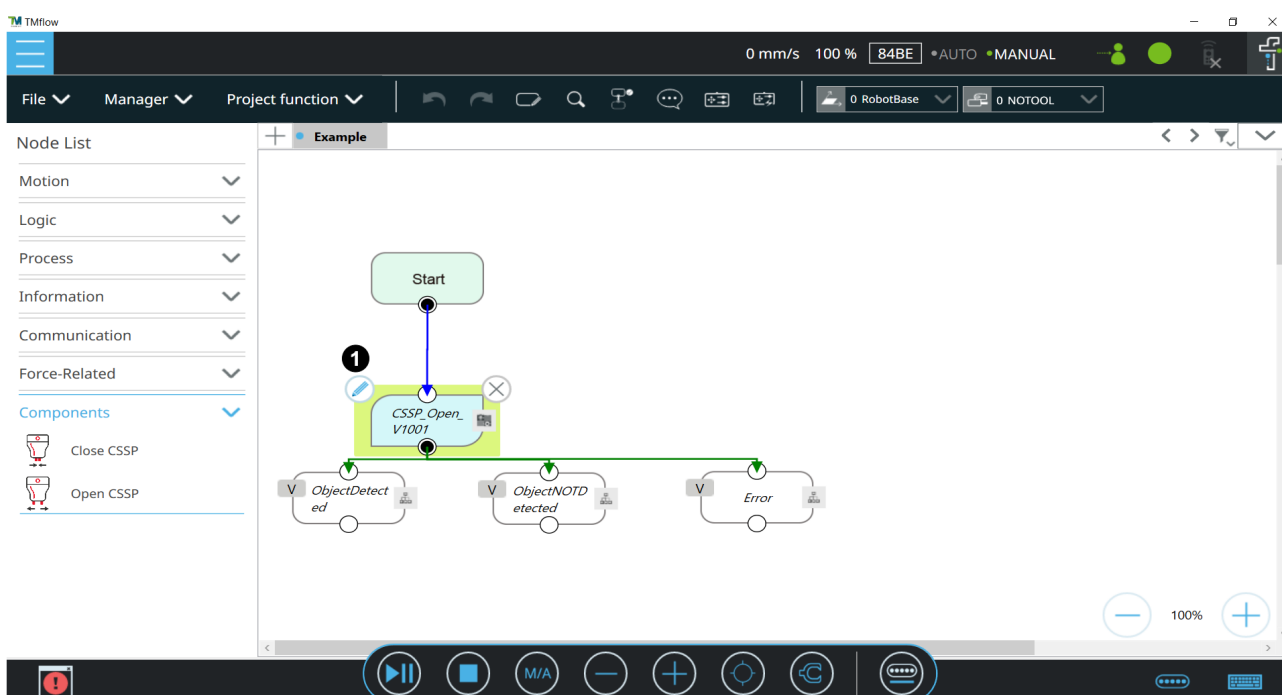

Figure 1.12: Project tab with "Open CSSP" component
After the previous step, you can see the the component in your Project tab, Fig.1.12 shows the "Open CSSP" component.
- (1) On the pencil icon (Fig.1.12);
- (2) Move the cursor on the right, it will appear a pencil icon and click on it.
- (3) Click on select;